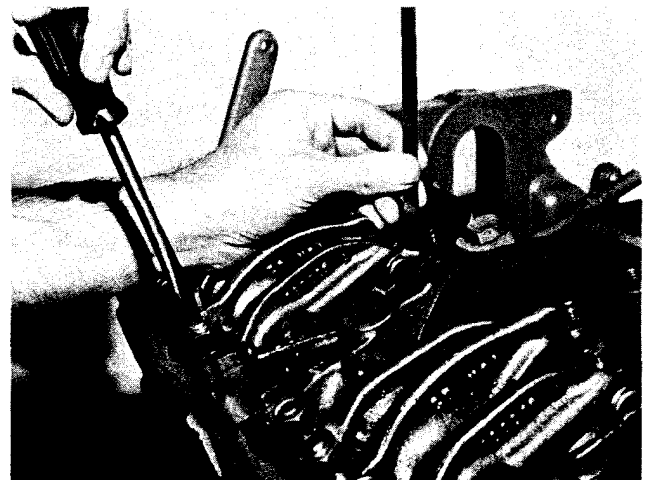

Fig. 2-52, (V414193). Adjusting valves
2. Loosen locknut and back off adjusting screw. Insert feeler gauge between rocker lever and top of crosshead. Turn screw down until lever just touches gauge and lock adjusting screw in this position with the locknut, Fig. 2-52. Torque locknut to values indicated in Table 2-14; note Step 3 under "Injector Plunger Adjustment."